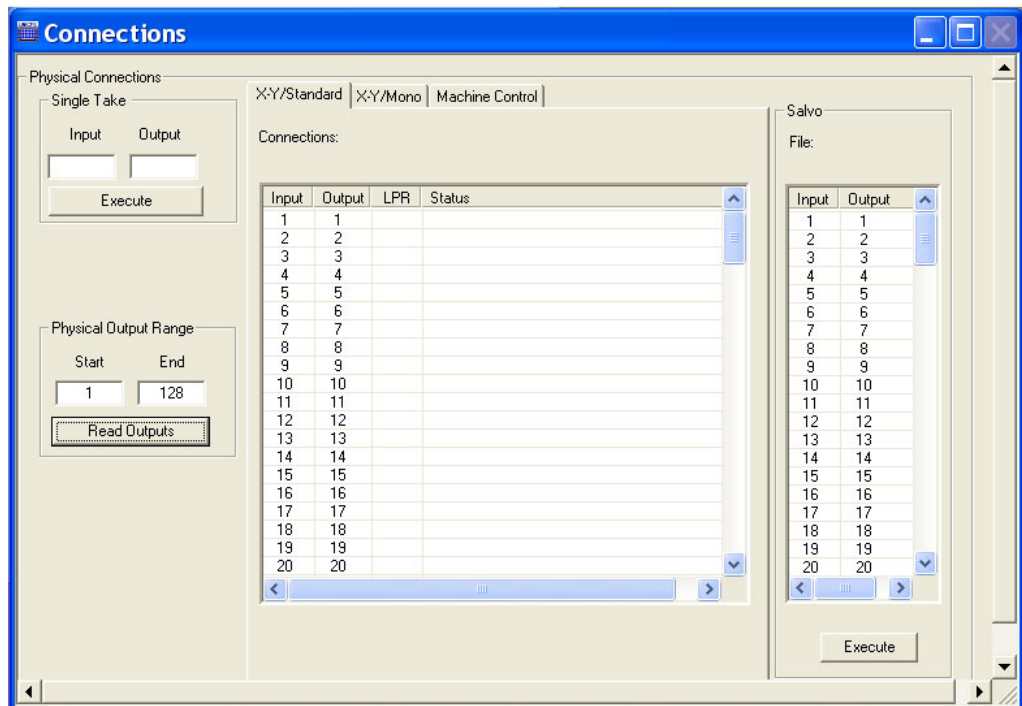

Figure 17-3. Connections Window with Salvo Section
- 2 From the menu bar, select 'Window > Connections'. The 'Connections' window appears with the 'Salvo' section displaying, as shown in Figure 17-3. The 'Connections' window must be open to activate the needed menu options.
- 5 Repeat step 4 until all individual takes you want added have been entered. The entered takes display in the 'Salvo' section on the 'Connections' window. (See Figure 17-3.)
- 5 Repeat step 4 until all individual takes you want updated have been entered. The entered takes display in the 'Salvo' section on the 'Connections' window. (See Figure 17-3.)
- 2 From the menu bar, select 'Window > Connections'. The 'Connections' window appears displaying current input and output settings, as shown in Figure 17-3. The 'Connections' window must be open to activate the needed menu option.
- 2 From the menu bar, select ‘Window > Connections’. The ‘Connections’ window appears displaying current input and output settings, as shown in Figure 17-3. The ‘Connections’ window must be open to activate the needed menu option.